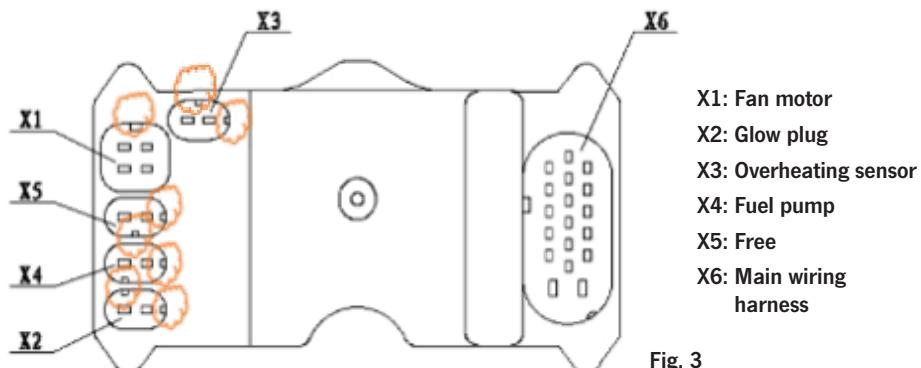

Fig. 3
The overheating sensor [Page 81 Fig.3 (X3)] is installed on the back outer wall of the heat exchanger [Page 80 Fig. 2 (16)]. If the temperature of the aluminium becomes higher than a defined upper limit, the fuel pump circuit will be cut off by the controller and the supply of fuel is stopped immediately. Then for purpose of overheating protection the heater is turned off.